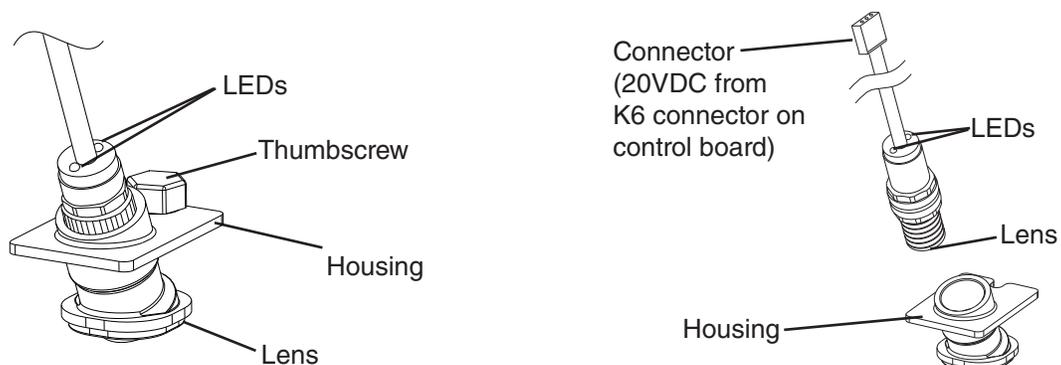

Fig. 4
- 4) Confirm that BC1 is connected to CB K6 connector. Wipe down BC1 lens with a warm, clean, damp cloth. If the bottom of the icemaker is not accessible in your application, remove the thumbscrew securing the BC1 housing, then remove the housing from the base. See Fig. 4.
- 6) Turn on the power supply to start the automatic icemaking process. Check that BC1 green LED is on. The BC1 green LED confirms 20VDC power from CB to BC1 and remains on constantly. **Diagnosis:** If the BC1 green LED is not on, confirm 20VDC at CB K6 #1 (DBU) to CB K6 #3 (BR). If 20VDC is present and the BC1 green LED is off, replace BC1. If not, see step "3) BC1 (infrared sensor) Power Supply," under "II.C. Control Board Check.
- 8) CB "GM" and "COMP" LEDs are on. Use an object to cover BC1 lens at the bottom of the icemaker. If the bottom of the icemaker is not accessible in your application, remove the thumbscrew securing BC1 housing, remove the housing from the base, then cover BC1 lens. See Fig. 4. The yellow LED on BC1 turns on (flashing or steady). The yellow LED flashes when ice is at the outer limit of its range and turns steady as ice nears. After the yellow LED turns on (flashing or steady), BC1 shutdown delay timer starts. See "III.B.2. BC1 (Infrared Sensor) Shutdown Delay (S1 dip switch 1, 2, 3)." Comp (LLV/SLV on MLJ model) should de-energize immediately after the shutdown delay timer terminates. 5 min. later, GM and FM/FMR should de-energize.